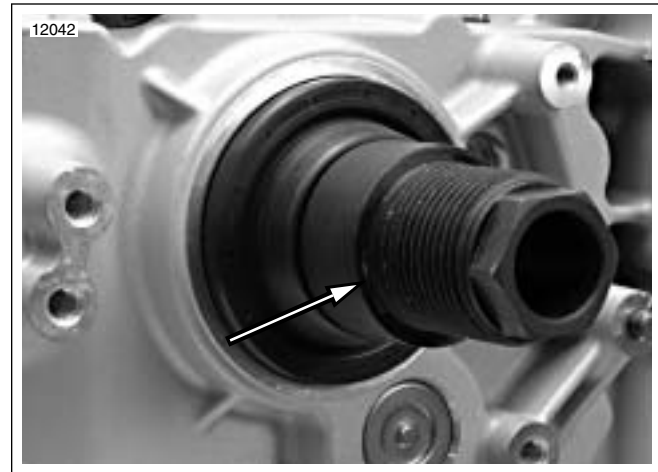

Figure 6-79. Install ADAPTER (Part No. HD-47856-4) (Typical)
4. See Figure 6-79. THREAD ADAPTER (Part No. HD-47856-4) onto end of main drive gear several turns. Do NOT tighten. Doing so could make it difficult to remove adapter after seal has been installed.